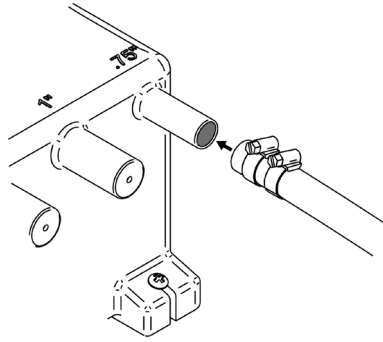

Figure 7 Securing Hose to Tank Port
- Fig. 7 Securing Hose to Tank Port
**Step 3:** Secure all hosing onto the selected ports using appropriate hose clamps, as shown in Figure 7. Check no leaks occur. Do not overtighten hose clamps.